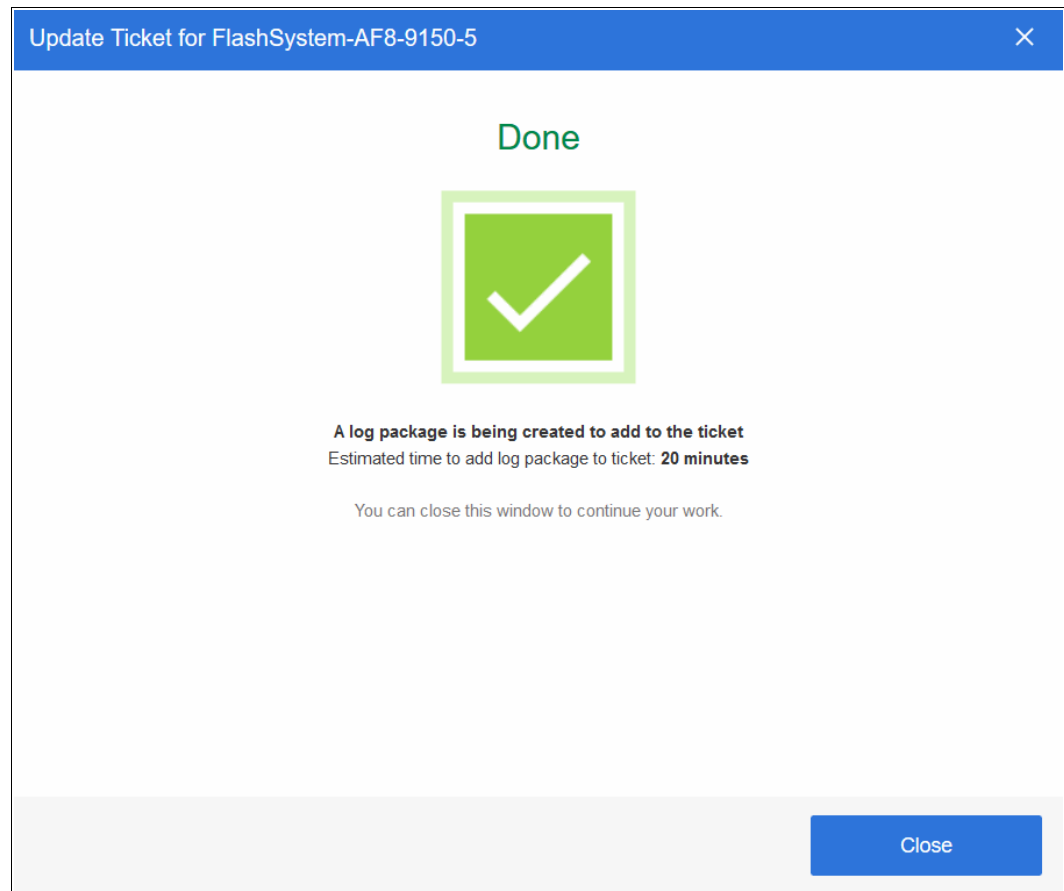

Figure 13-89 Confirming the log upload
3. After clicking **Update Ticket**, a confirmation opens, as shown in Figure 13-89. You can exit the wizard. IBM Storage Insights runs in the background to gather the logs and upload them to the ticket.